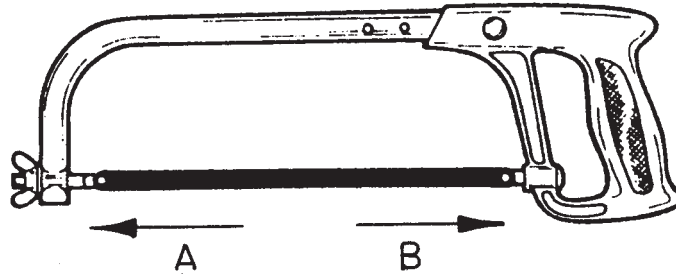

Fig. 2
- (b) (i) A hacksaw is shown in Figure 2. Circle the arrow that shows the correct direction the teeth should face on the blade of the hacksaw. **1**